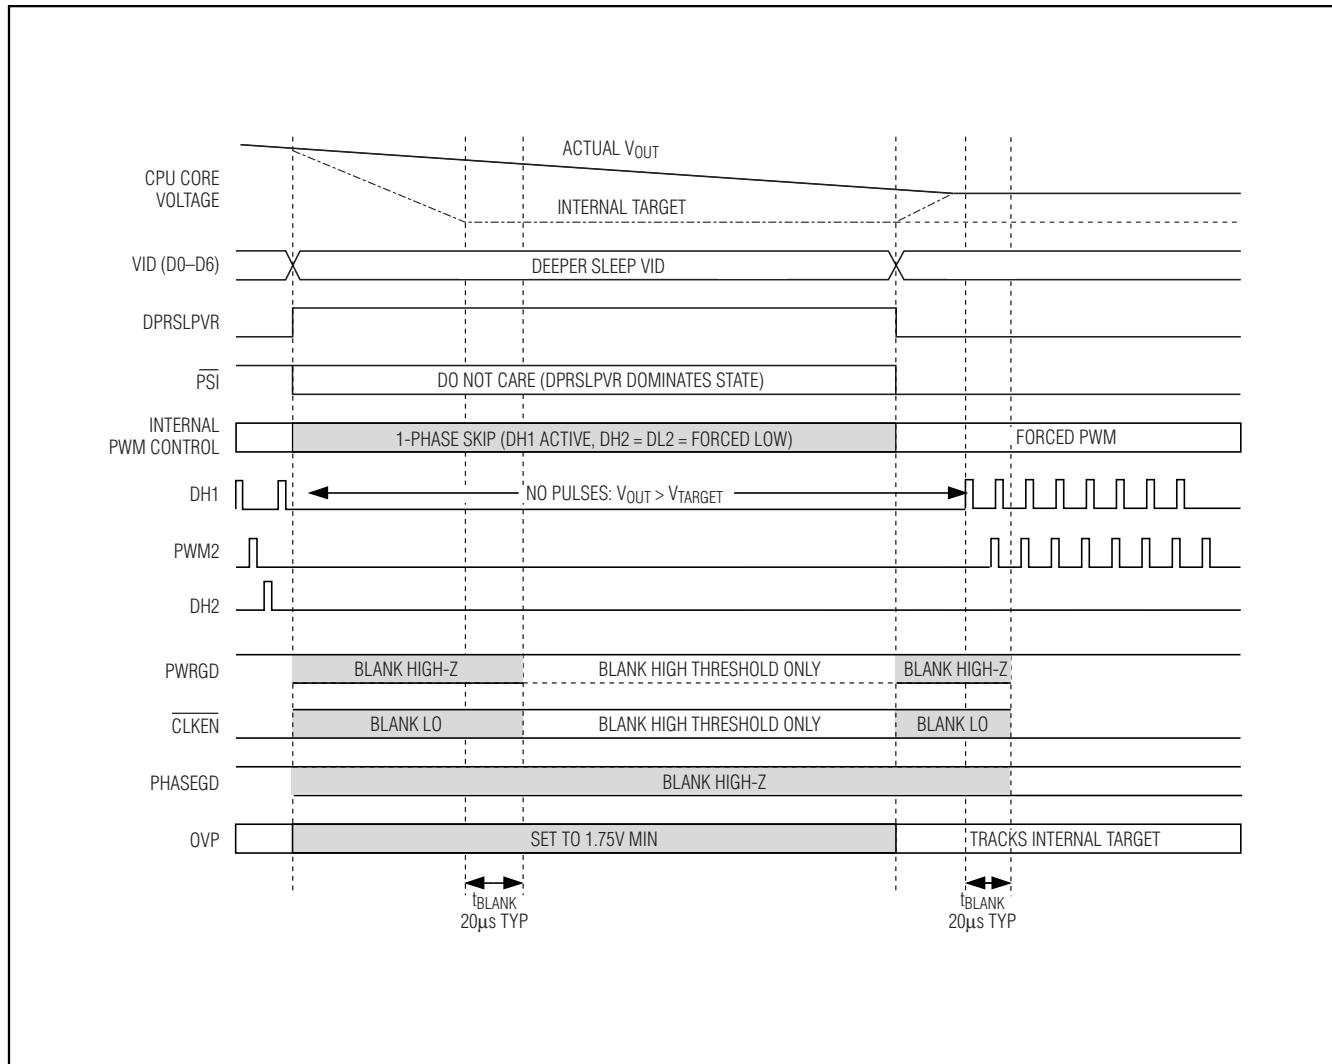

Figure 4. C4E (C4 Early Exit) Transition
When DPRSLPVR goes high, the MAX8770/MAX8771/MAX8772 immediately disable phase 2 (DH2 and DL2 forced low), blank PHASEGD high impedance (MAX8771 only), and enter pulse-skipping operation (see Figures 4 and 5). If the VIDs are set to a lower voltage setting, the output drops at a rate determined by the load and the output capacitance. The internal target still ramps as before, and CLKEN and PWRGD upper and lower thresholds remain blanked until 20µs after the internal target reaches the programmed VID code. Once this time expires, PWRGD monitors only the lower threshold:
- **Fast C4E Deeper Sleep Exit:** When exiting deeper sleep (DPRSLPVR pulled low) while the output voltage still exceeds the deeper sleep voltage, the MAX8770/MAX8771/MAX8772 quickly slew (50mV/µs min regardless of RTIME setting) the internal target voltage to the DAC code provided by the processor as long as the output voltage is above the new target. The controller remains in skip mode until the output voltage equals the internal target. Once the internal target reaches the output voltage, phase 2 is enabled. The controller blanks PWRGD, PHASEGD, and CLKEN (forced high impedance) until 20µs after the transition is completed. See Figure 4.